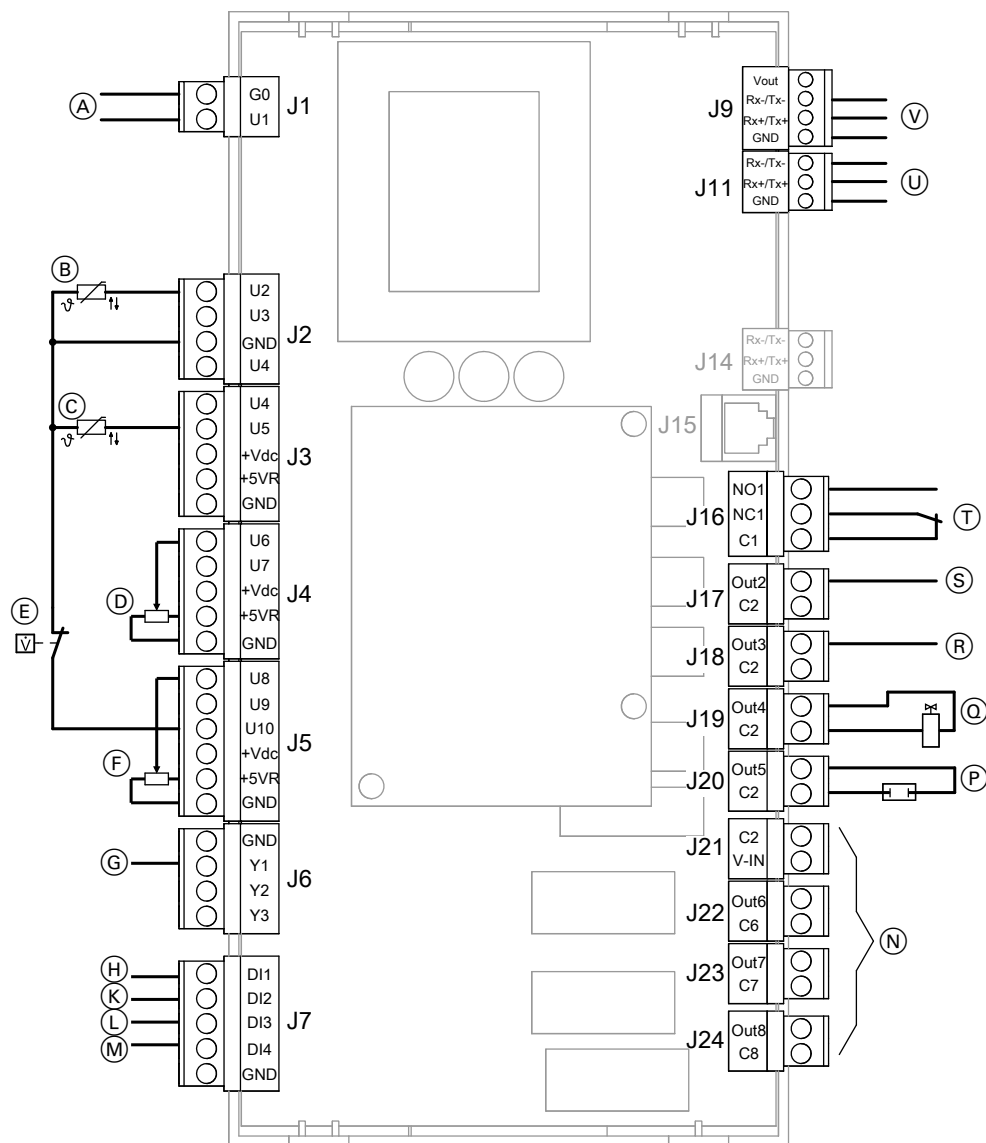

Fig. 80
- (A) Power supply 24 V–
- (B) Low pressure sensor
- (C) Suction gas temperature sensor (NTC 10 k Ω)
- (D) Modbus connecting cable to controller PCB, connection (V) in Fig. 80
- (E) Electronic expansion valve stepper motor